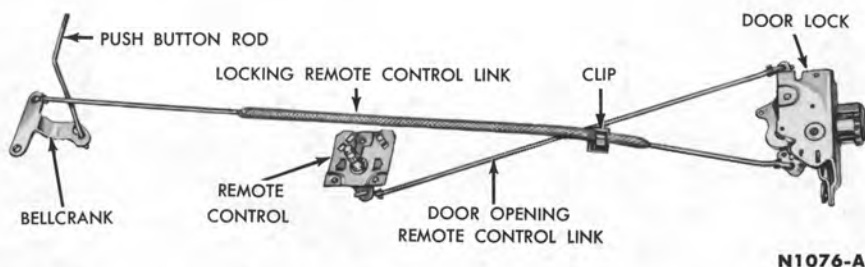

FIG. 8—Rear Door Lock and Remote Control
3. After raising the glass and removing the lock retaining screws, remove the lock, and disconnect the locking remote control link (Fig. 8).
3. Remove the belt weatherstrips, and remove the rear run adjusting nut (Fig. 15). Disconnect the remote control anti-rattle clip (Fig. 8).